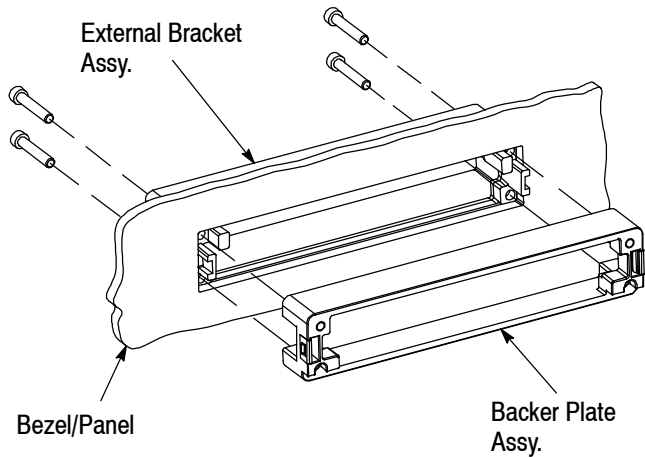

Figure 6
6. Mount an external bracket and backer plate loosely to a bezel/panel designed in accordance with Application Specification 114-13263. This should be done by inserting the external bracket into the bezel/panel opening such that the EMI gasket on the rear of the external bracket rests against outside of the bezel/panel, around the perimeter of the opening. The two arms on the rear of the external bracket will protrude through the opening. See Figure 6. The backer plate can then be fit over those arms. Insert four 2-56 UNC hex socket head cap screws through the clearance holes in the external bracket, and screw them loosely into the backer plate. The bracket and plate should be held together by the screws, but not so tightly that they cannot move in the bezel/panel or relative to each other. The rear bottom portion of the backer plate includes a clearance notch. This notch is oriented to the pc board side.